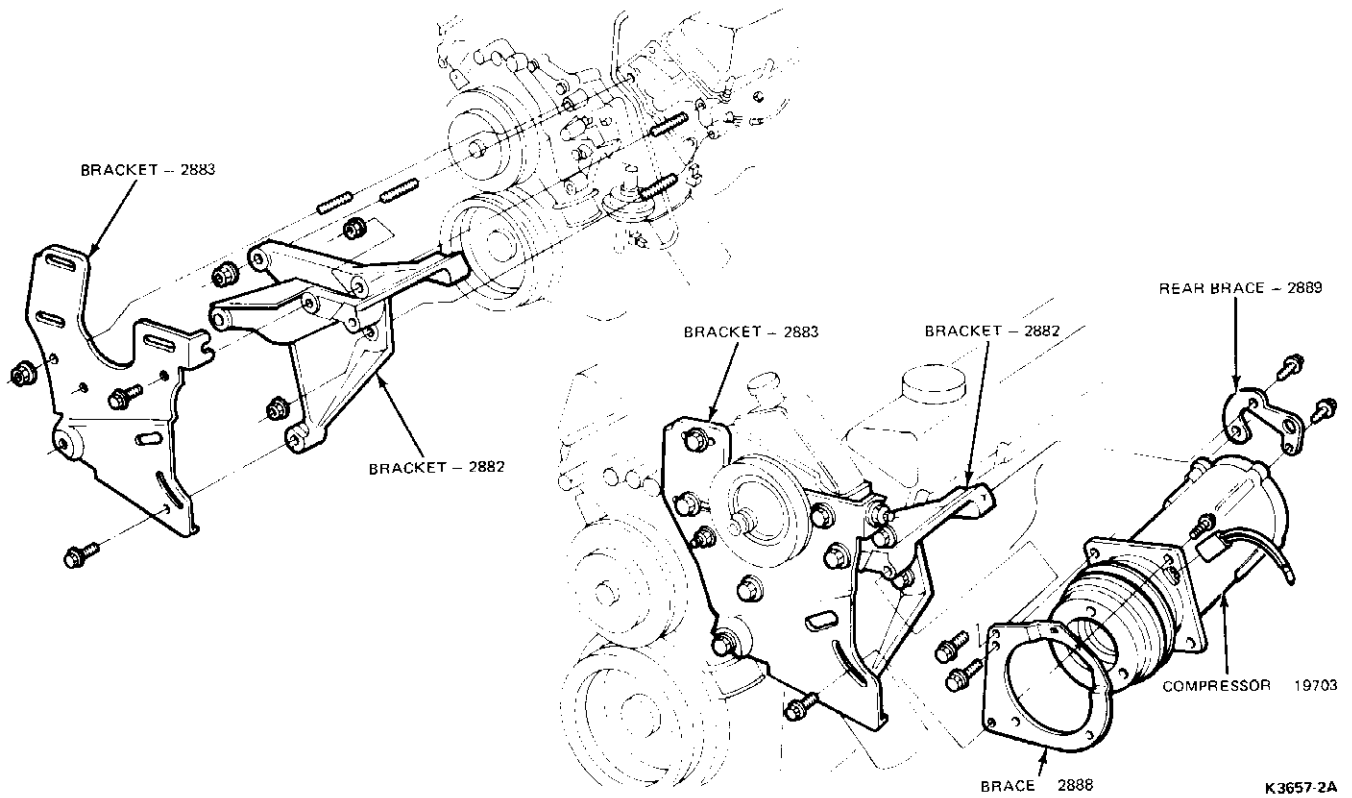

FIG. 22 Compressor Installation — Lincoln Continental with 7.5L (460 CID) Engine
2. If the belt tension is not within specification, loosen the compressor adjusting bolt and the two pivot bolts (Figs. 22 and 23) until they are just snug.
3. Insert the end of a 1/2 inch flex handle into the square hole in the brace at the front of the compressor (Figs. 22 and 23). Apply pressure to the brace with the flex handle until the belt tension is within specification. Then, tighten the adjusting bolt.